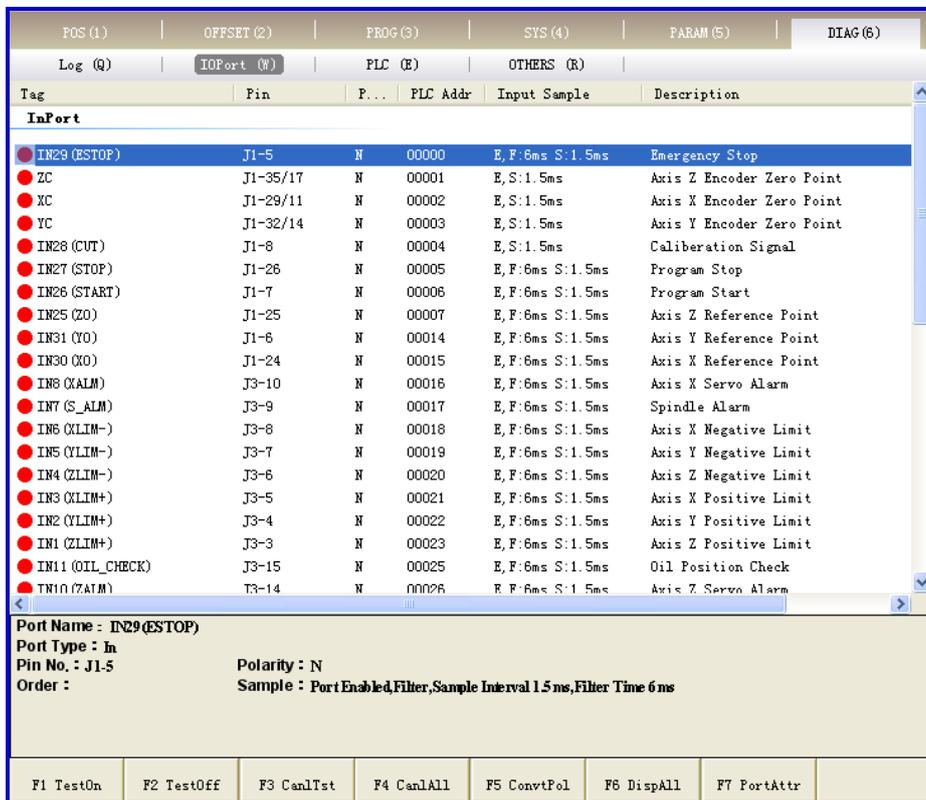
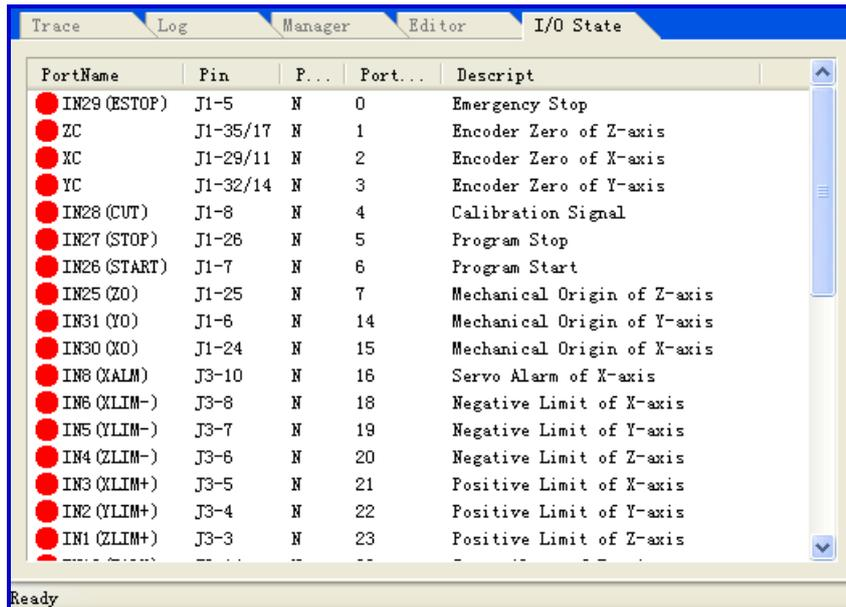

Fig. 4-2 I/O ports window of NcStudio (V9)
Fig. 4-3 I/O ports window of NcStudio (V8)
- 2) Power on the computer, run NcStudio software, and then switch to "IOPort" window, displaying many input and output signals. Solid dots represent input signals, while hollow dots represent output signals; dots in red indicate the signals are invalid at the time (with no input or output), while dots in green indicate the signals are valid at the time. The "IOPort" window is as shown in Fig. 4-2 and Fig. 4-3. (They are for reference only. Ports displayed in "IOPort" window will vary with different software versions and hardware board card types. The actual situation is in line with shipment).